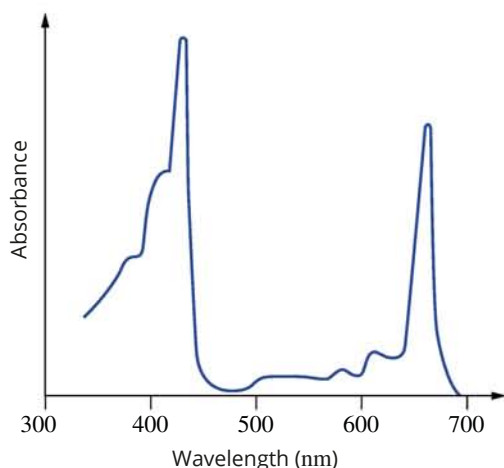

FIGURE 18.4.7 Scan of a green chlorophyll solution showing absorbance maxima at around 450 and 650 nm.
When a UV–visible spectrophotometer is used, the solution to be tested can first be scanned across multiple wavelengths to select the best wavelength to use. Scanning involves varying the wavelength of light used and checking the absorbance of the sample. Figure 18.4.7 shows an example of a scan for a solution of the green plant pigment chlorophyll.
- 8 The absorption spectrum of chlorophyll is shown in Figure 18.4.7 on page 471.